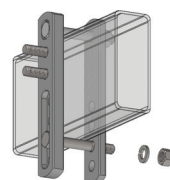

Figure 9
2. Insert the second $\frac{5}{8}$ " x $3\frac{3}{4}$ " bolt through the open hole closest to the bottom of the trailer frame. (Figure 9)